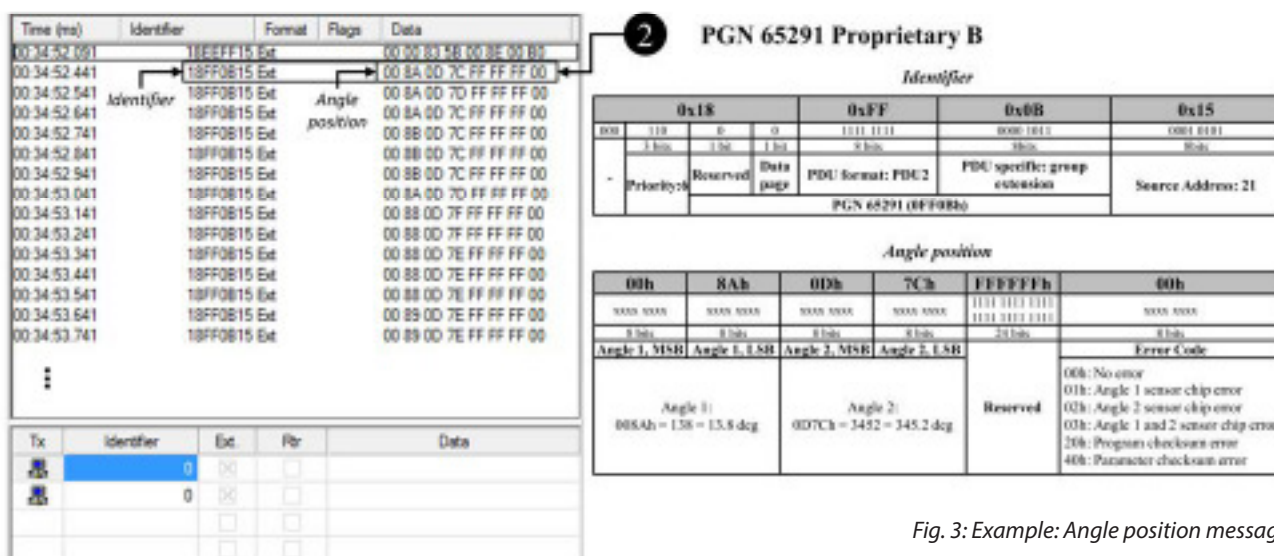

Fig. 3: Example: Angle position message
- After the sensor has acquired a valid address, it starts sending the angle position message according to PGN 65291 as shown in the example of Fig. 3 (page 10). The message is composed of: